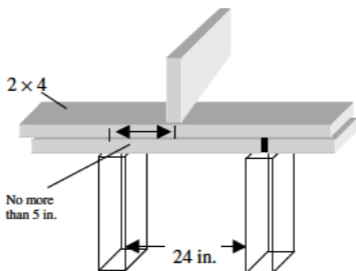

Figure 5-1 MAXIMUM JOIST OFFSET WHEN STUDS SPACED AT 24 IN. OC.
- ☐ Check joist offset. If joists or rafters are spaced more than 16 in. and studs are 24 in. OC, they must rest within 5 in. of bearing studs (see Figure 5-1). (This requirement does not apply if using 2 × 6 plates.)